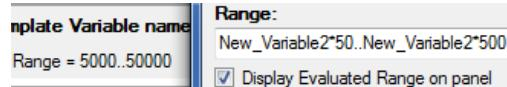

Figure 6.20 Select Display Evaluated Range on Panel to Show Unevaluated Variables
- **Display Evaluated Range on panel:** When selected, variable names used in the range equation are displayed after being resolved. The left side of *Figure 6.20* shows the range after evaluation.